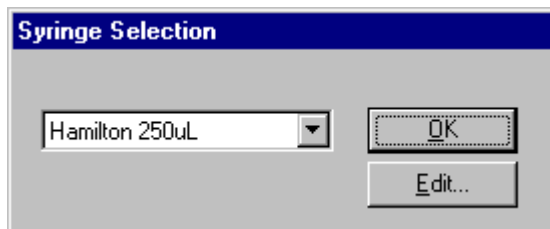

Figure 3-4 Syringe Selection Dialog Box
5. Select **Options > Syringe Type**. The Syringe Selection dialog box appears (Figure 3-4).